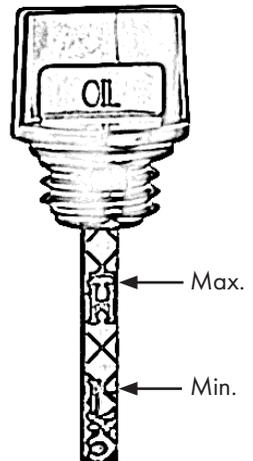

Figure 5
- Read the oil level, see also Fig. 5.